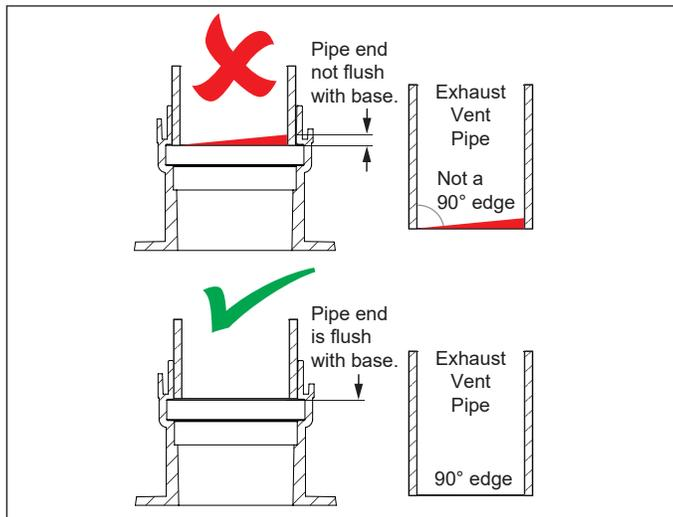

Figure 14 - Insert Straight Pipe
- 1 Insert 2 inch straight pipe into the exhaust/intake ports until fully seated (Figure 14). The pipes will insert at a minimum of 1.5 inches (38 mm).